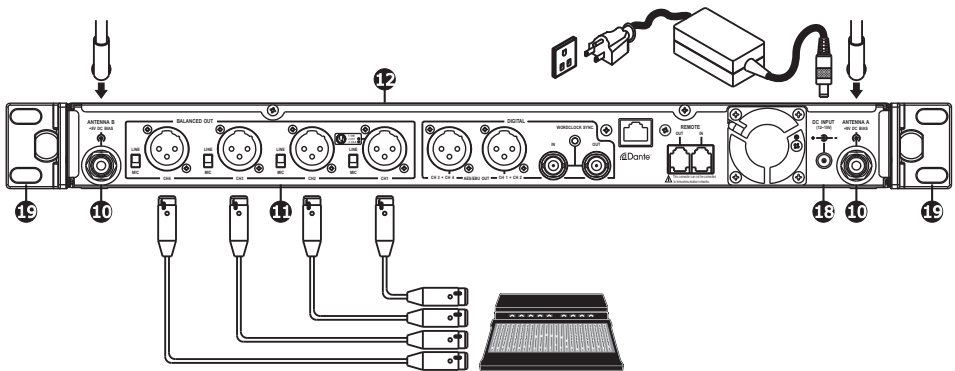
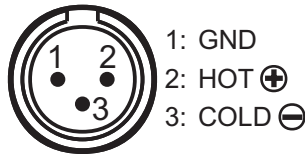

Fig.2
Fig.3
1. Connect two antennas to each of the antenna connectors ⑩ on the rear panel, Fig.2.
Connect the power cord to the receiver optional AC power input socket ⑬ and plug the other end into an AC 100~240V power source, Fig. 2.
- (A) Each channel signal output can be connected to the mixer or amplifier's MIC IN using a balanced XLR connector, Fig.2.
- (B) Volume Switch: Line or Mic level selection. To match input gain of mixer or amplifier.
- (C) LINE output connection: Connect receiver's balanced output connector to the "LINE IN" input connector of mixer or amplifier using the XLR to 6.3φ cable and switch the volume switch to "LINE" position.
- (D) 3-pin XLR output wiring diagram, as Fig. 3 shows.